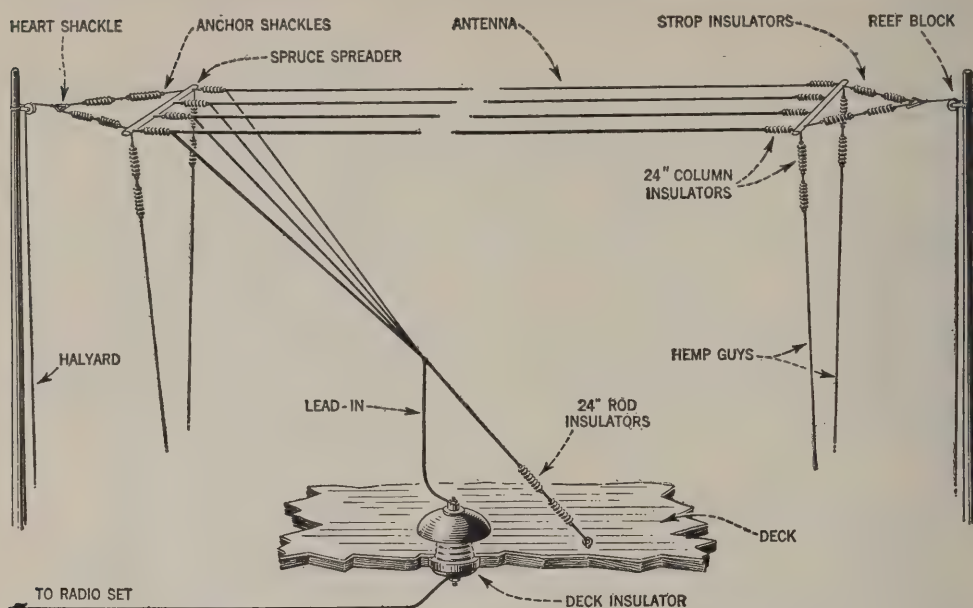

FIG. 41.—A detailed sketch of the flat-top inverted "L" antenna, lead-in and deck-insulator of the type commonly installed on shipboard.
Answer. (1) The inverted "L," or flat-top antenna, shown in Figures 41 and 42, consists usually of two to four equally spaced parallel wires secured at either end to insulators which are in turn fastened to spreaders. The spreaders are